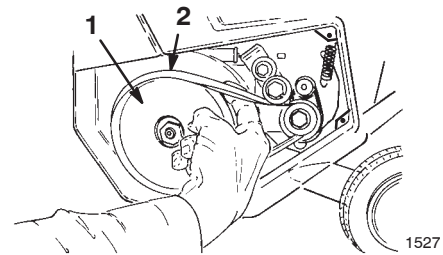

Figure 17
- Rotate the rotor with your left hand while sliding the belt off the large pulley with your right hand (Fig. 17).
3. Remove the large belt by slowly sliding it off the small pulley (Fig. 17).